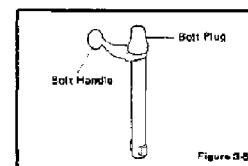

Figure 3-5
2. Place bolt in vertical position with bolt handle to the top. (See Figure 3-5).